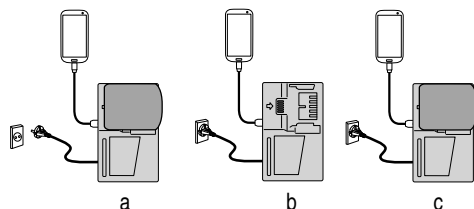

Fig. 13
- Charging a USB device by battery (Fig. 13-a)
- Charging a USB device from a electrical outlet (Fig. 13-b)
- Charging a USB device and battery from a electrical outlet (Fig. 13-c)